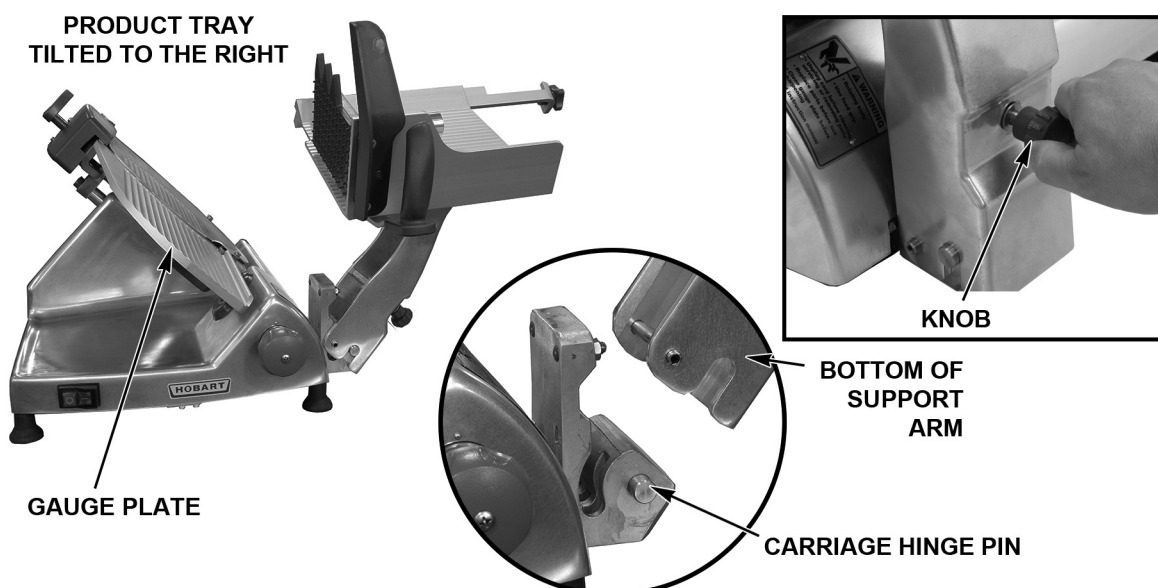

Fig. 14
- Lower the bottom of the Support Arm onto the Carriage Hinge Pins (Fig. 14).